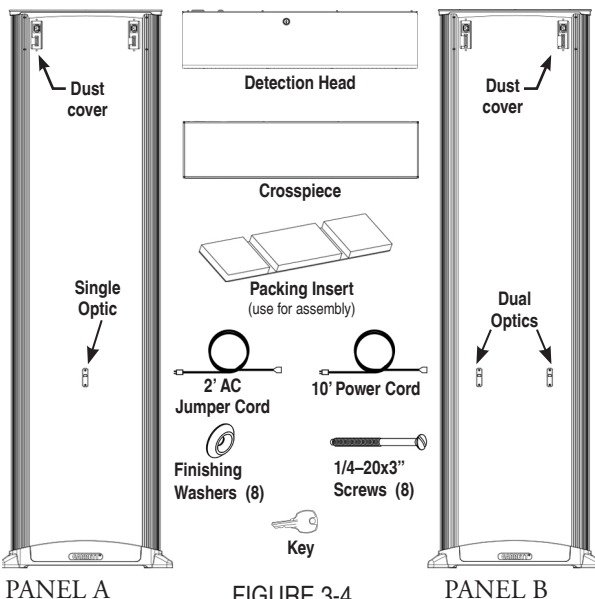

FIGURE 3-4
2. Arrange the major components as shown in Figure 3-4.
- Prepare for assembly as shown in Figure 3-4 with Panel A on the right.
- Prepare for assembly as shown in Figure 3-4 except swap Panel A and Panel B.